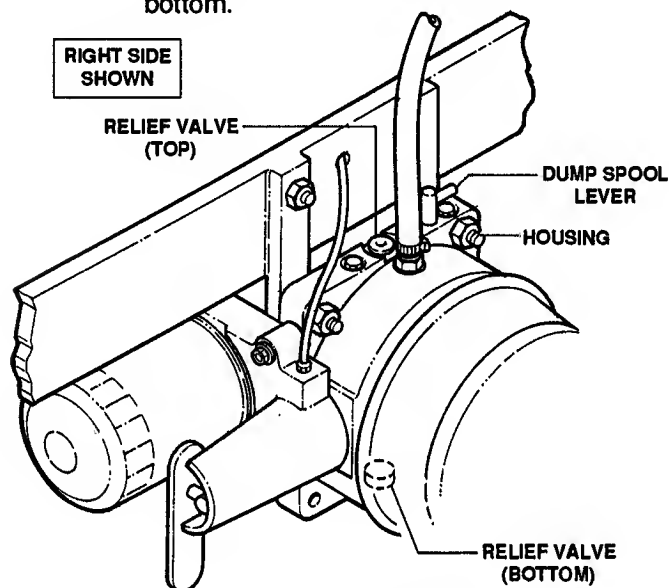

FIGURE 9.15
1. Each Unistat is equipped with two hi-pressure (3,000 PSI) relief valves which help prevent damage to the transmission in cases of extreme hydraulic pressures. One valve is located adjacent to the Unistat "Dump Spool Lever" (See Figure 9.15) on top of the housing while the other is located in the center of the housing on bottom.